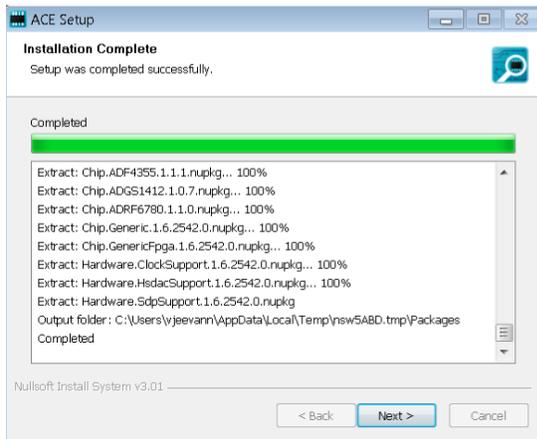

Figure 15. Installation Complete
- The installation is complete (see Figure 15). Click **Next >** and then **Finish** to complete.